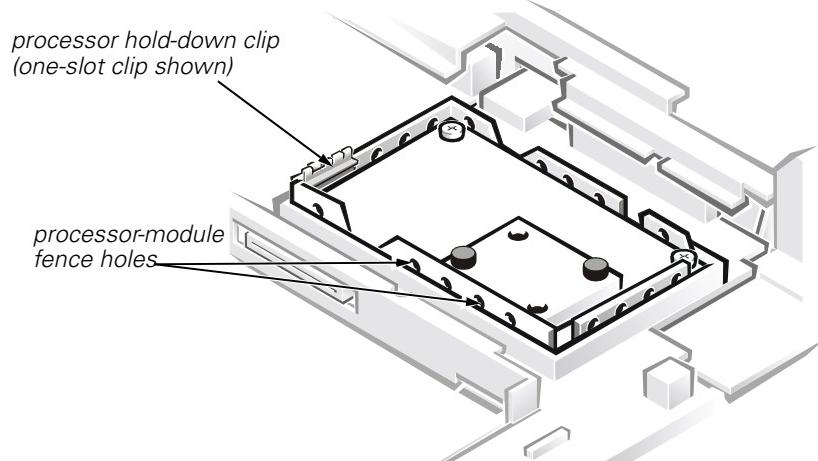

Figure 1. Processor Module
When the processor module is seated, all four corners must be at the same height. If one or more corners of the module are higher than the others, the module is not seated correctly. To ensure the processor module is seated correctly, look at the holes on the processor-module fence. You should see no less than the top half of the holes all the way around the processor module (see Figure 1).
3. Place a new processor hold-down clip (either a one-slot or two-slot clip) over the corner of the fence, as shown in Figure 1, and press the clip down to lock it in place.